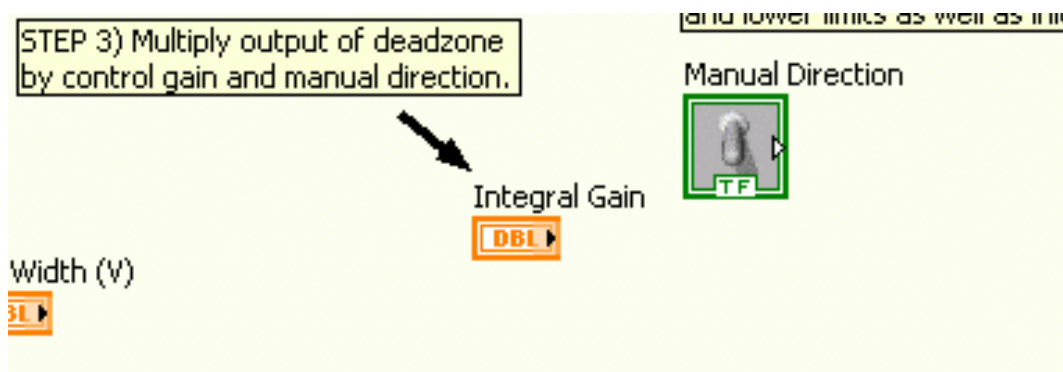

Figure 2.3: Multiply dead zone output by control gain and manual direction
7. Find the section in the block diagram shown in Figure 2.3. Multiply the dead zone output by the Integral Gain control. This signal is basically the servo command rate that will later be fed to an integrator. If the direction is TRUE (i.e. positive) then the clamps should close. If the direction is FALSE (i.e. negative) then the clamps should be open. Add this logic to the code and attach an image of the block diagram.